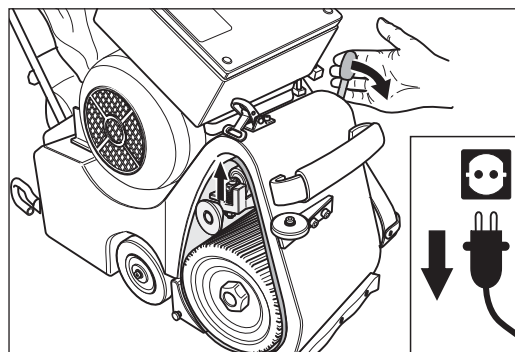

Fig. 11 Press the operating lever of the drive unit down. Similar to figure.
- 11 To tighten the sanding belt press the operating lever of the drive unit down (Fig. 11).
- 6 To tighten the sanding belt press the operating lever of the drive unit down (Fig. 11).